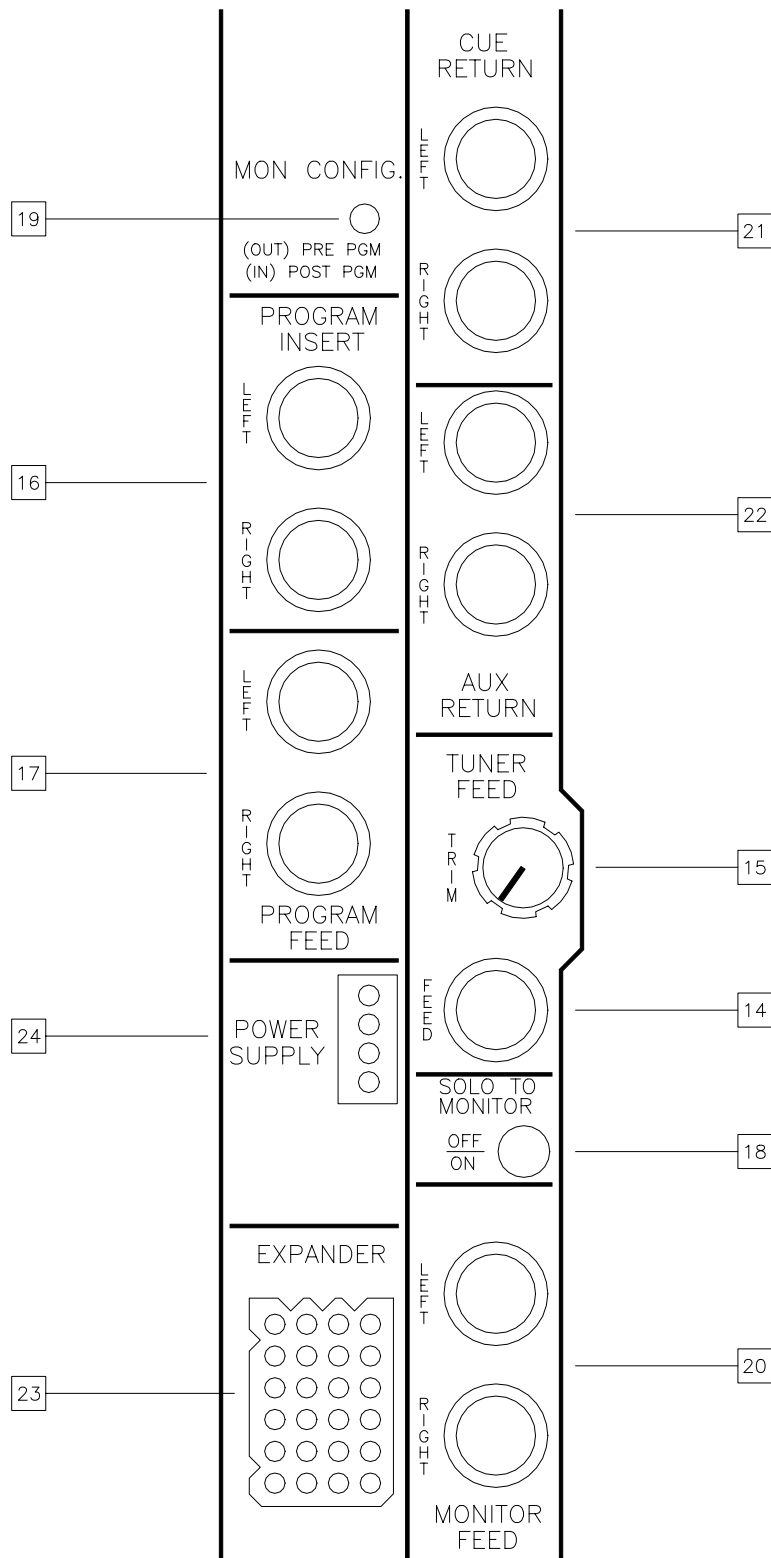

Figure 10. Master Input/Output Connectors
Refer to Figure 10 for location of items 14 thru 24.